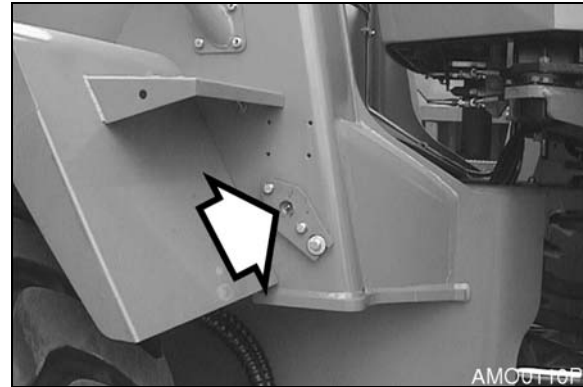

Figure 33
- D: Lift cylinder heads (left, right), 2 locations (Figure 33).